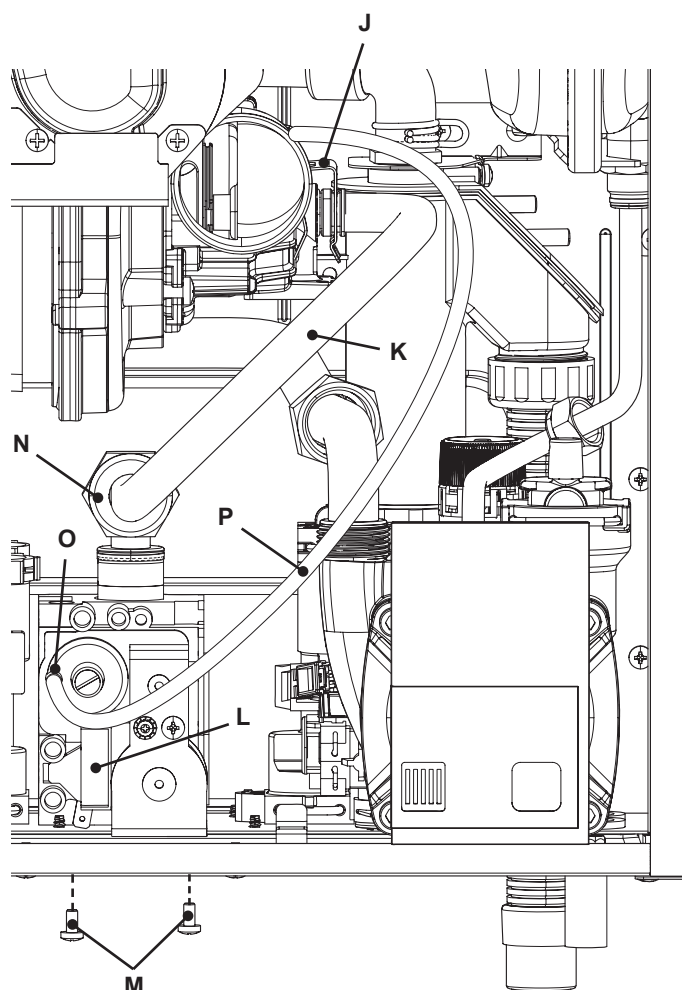

Figure 11.12
- 2 Disconnect the connector L (Figure 11.12).
- 4 Using pliers, remove the spring O and the rubber pipe P (Figure 11.12).
- 5 Unscrew the connector N (Figure 11.12), remove the fixing fork J and remove the pipe K.
- 6 Unscrew the screws M and remove the valve (Figure 11.12).